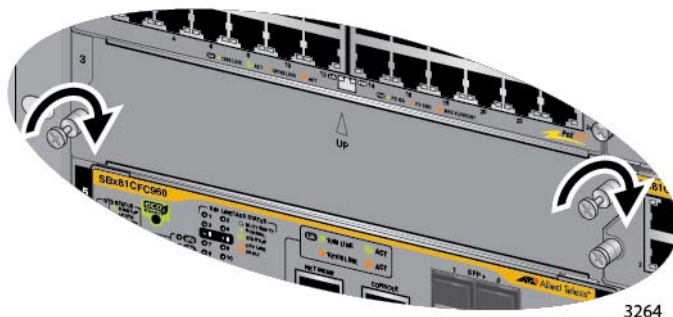

Figure 77. Tightening the Thumbscrews on a Blank Slot Cover
2. Finger tighten the two thumbscrews to attach the blank panel to the chassis, as shown in Figure 77.